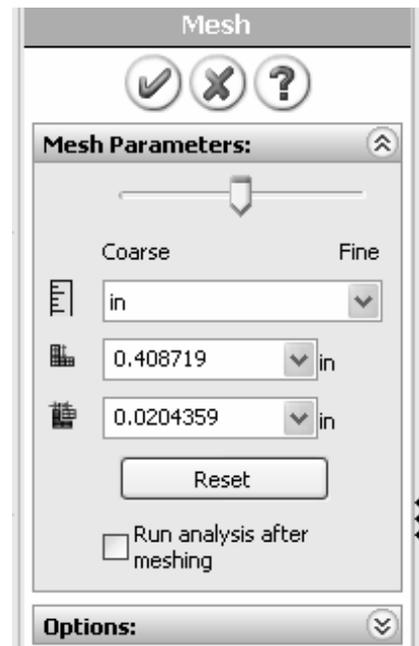

Figure 13 (a) – **Mesh** property manager showing system default **Mesh** settings applied to the current model.
- In the COSMOSWorks manager, right-click **Mesh** and from the pull-down menu select **Create Mesh...** The **Mesh** property manager opens as shown in Figs. 13 (a) and (b).